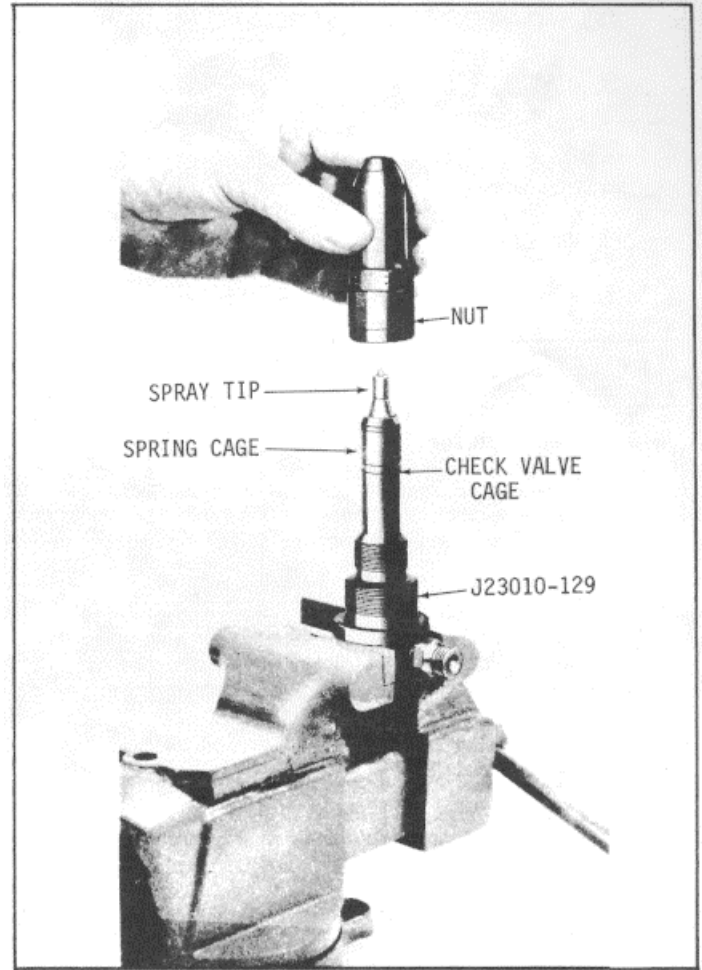
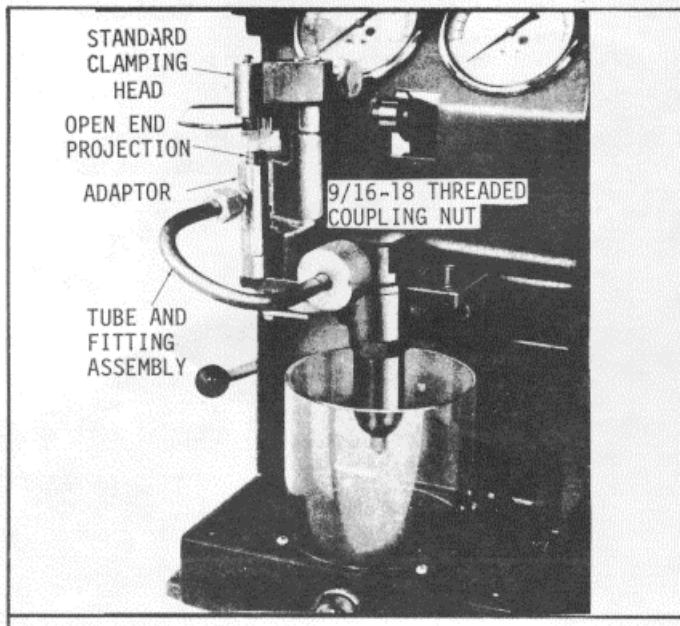

Fig. 14 Assembling Injector Valve Parts on Tip Tester Adaptor J 23010-129
Fig. 15 Adaptor and Tube Assembly on Injector Tester J 23010
- (1) Clamp the flat sides of the tip test adaptor J 23010-129 firmly in a vise and assemble the cleaned injector parts including the check valve cage, spring, spring seat, spring cage and spray tip assembly.
- (2) Carefully pilot the injector nut over the spray tip and valve parts and thread it onto the adaptor (Fig. 14).
- (3) Tighten the injector nut.
- (4) Mount the adaptor and assembled injector parts in the support bracket (adaptor not needed). Refer to Fig. 15.
- (5) Install the offset clamping head on the clamping post (on J 23010 testers without serial numbers, use the upper detent position and on J 23010 testers numbered 1051 and higher, use the lower detent position)
- (6) Select the (larger) 9/16"-18 threaded coupling nut J 23010-20 and thread it on tubing J 23010-75. Install the tubing and fitting to adaptor J 23010-167.
- (7) Connect the tubing to tip test adaptor J 23010-129 by threading the coupling nut on the tip test adaptor.
clamp it with the oil supply outlet aligned over the open projecting end of the adaptor (Fig. 15).